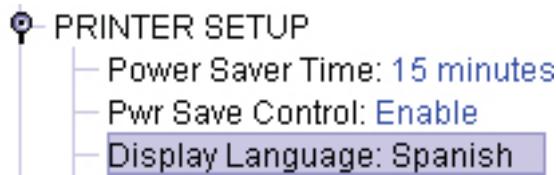

Figure 57 Toggling Through The Available Options
4. Double-click an item to open the Menu Editor (page 67) for that item, or use the < and > keys to toggle through the available options. See Figure 57. (You may change these keys in the printer database window: select **File ► Preferences**, then click the **Configuration Editor** tab. See page 28).